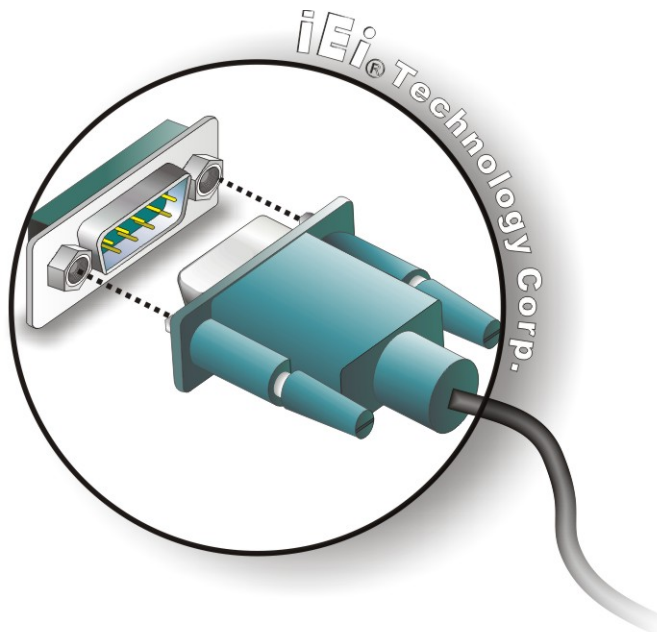

Figure 4-17: Serial Device Connector
Step 2: Insert the serial connector. Insert the DB-9 connector of a serial device into the DB-9 connector on the external peripheral interface. See Figure 4-17.